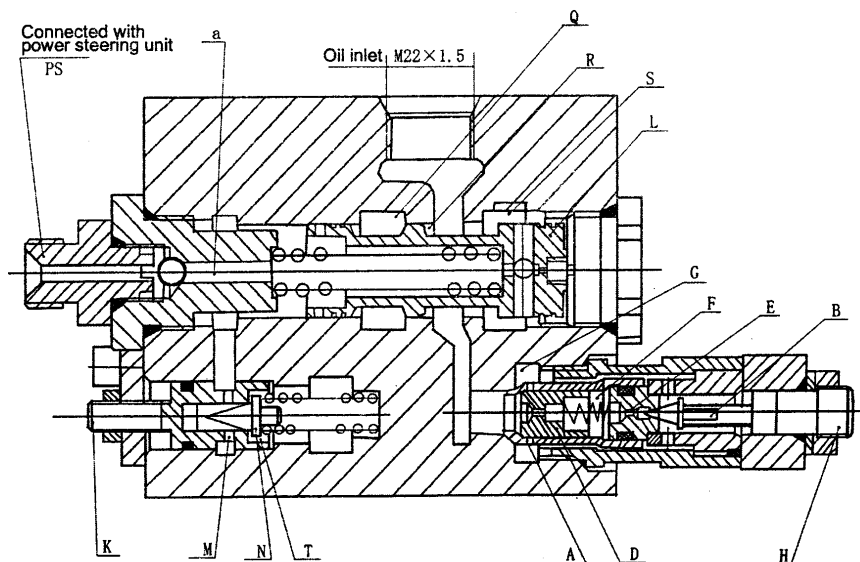

Fig6.3 Relief valve and flow divider
6.3.1 Relief valve and flow divider (see Fig6.3)